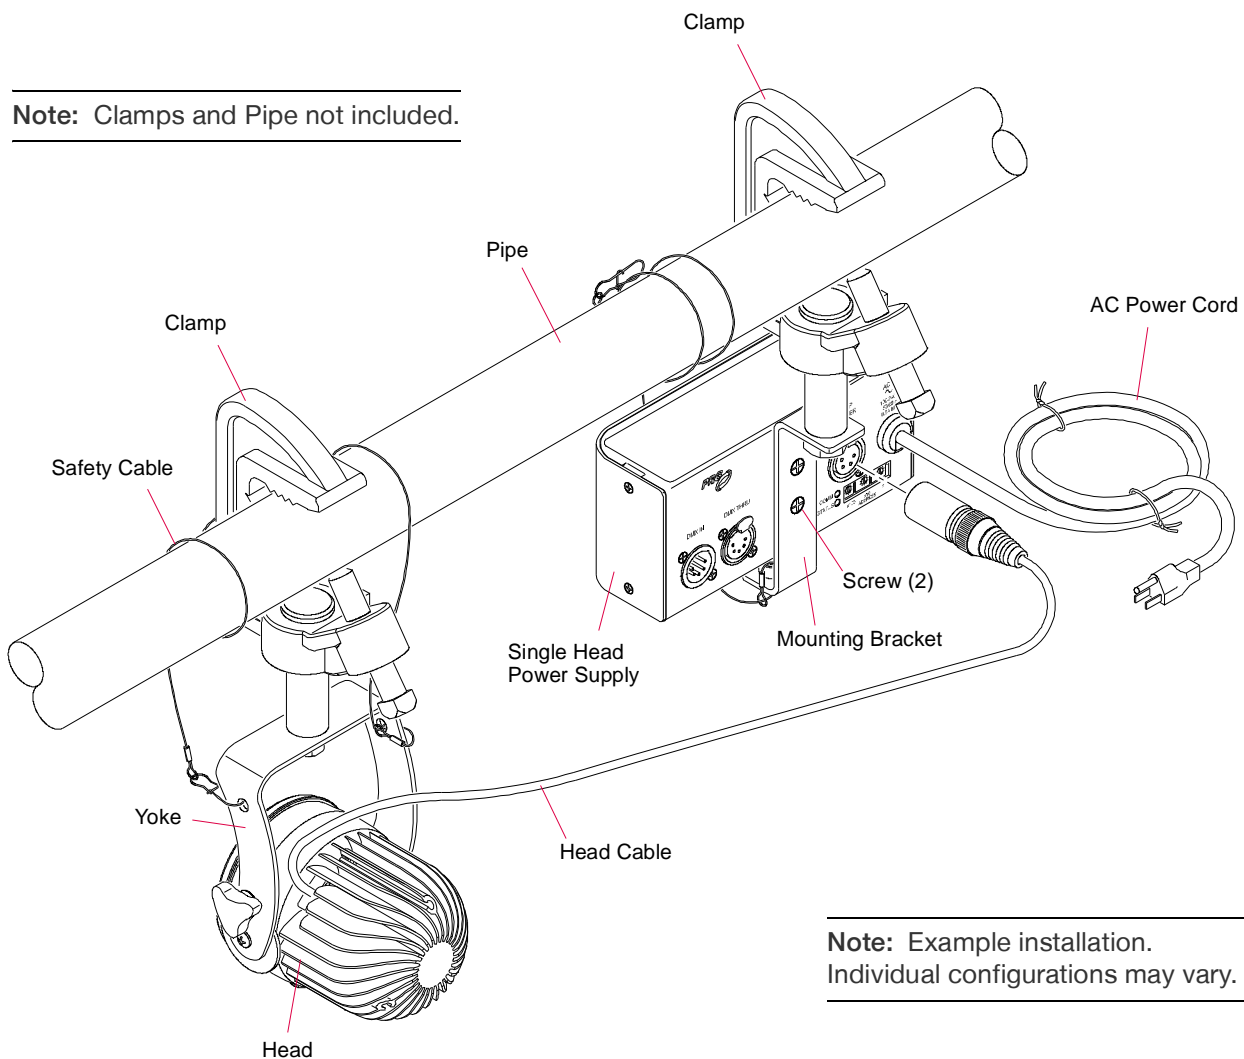

Figure 3: Split Mounting Example
- Step 6. Attach Safety Cable to both components as shown in **Figure 3**.